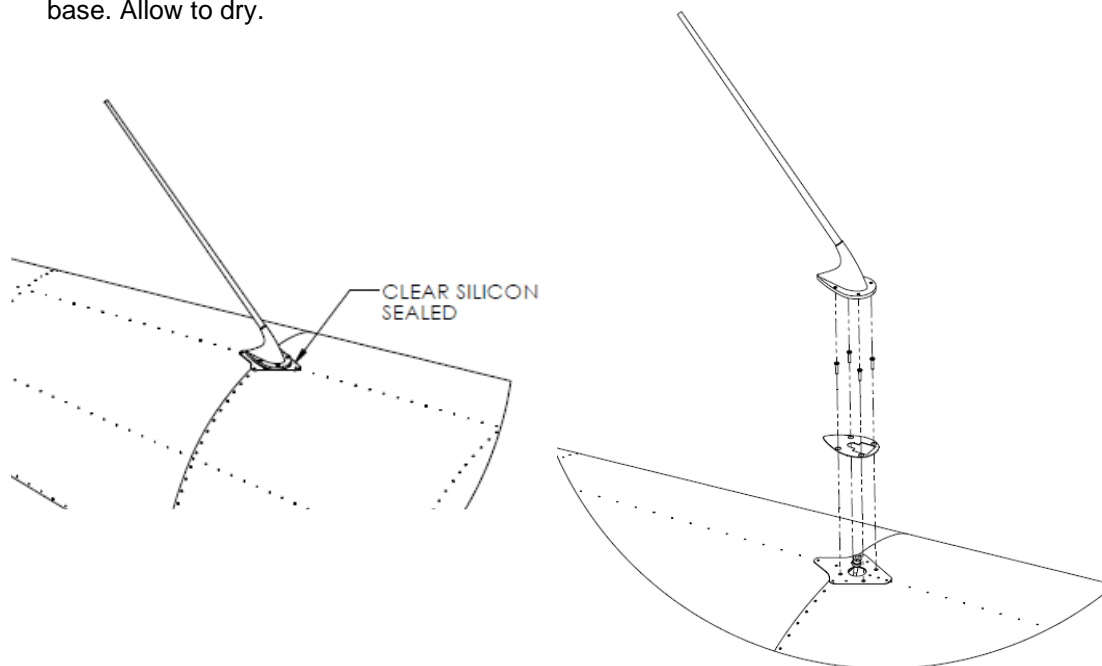

Figure 64: VHF antenna installation.
2. Apply clear silicone (refer to Figure 64) around the interface between the fuselage and antenna base. Allow to dry.